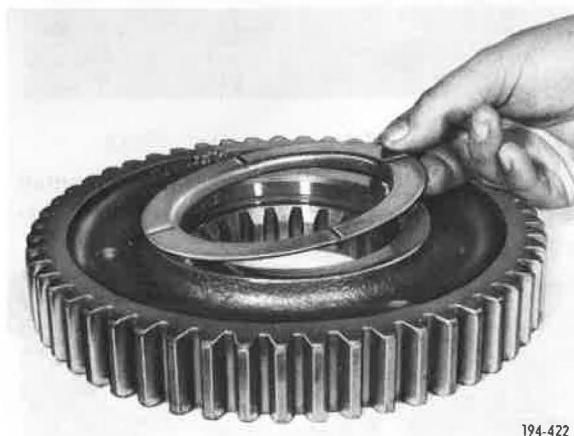

Figure 5-960. Installing Thrust Washer
21. Apply a light coat of grease to front face of second speed gear, and then place second speed gear thrust washer onto front face of gear. Grease will hold washer in position during installation. See **Figure 5-960**.